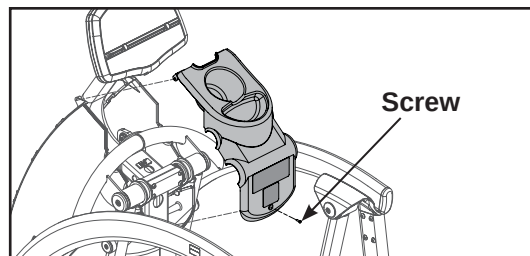

Figure 3
- A. Using a Phillips screwdriver, remove the screw securing the top cover. See Figure 3.
- A. Place the top cover in position. See Figure 3.